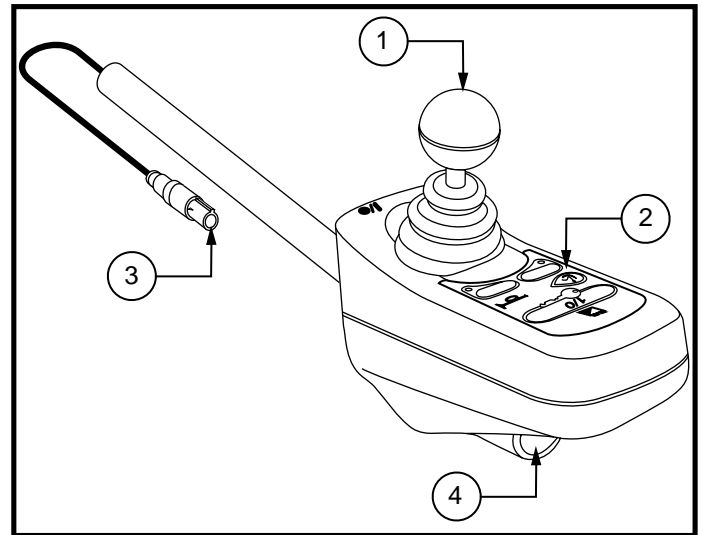

Figure 35. Europa Master Remote
- Europa master remote (see figure 35)